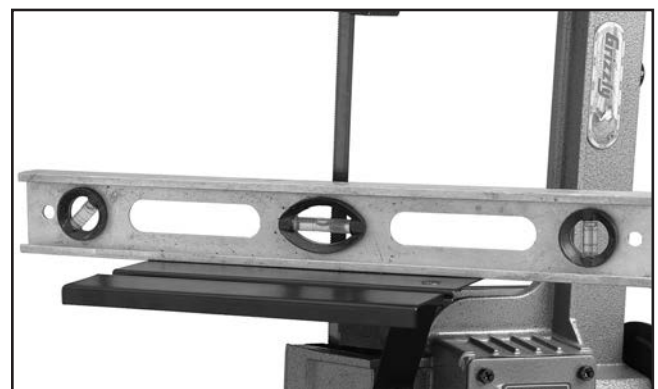
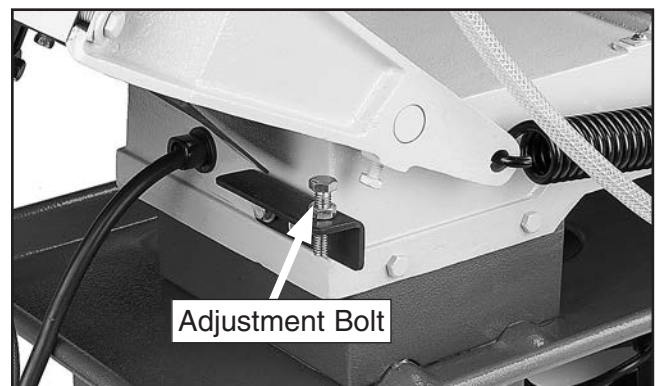

Figure 24. Adjusting table level.
Figure 25. Location of adjustment bolt.
5. Place a level on the table, as shown in **Figure 24**, and turn the adjustment bolt shown in **Figure 25** until table is level.